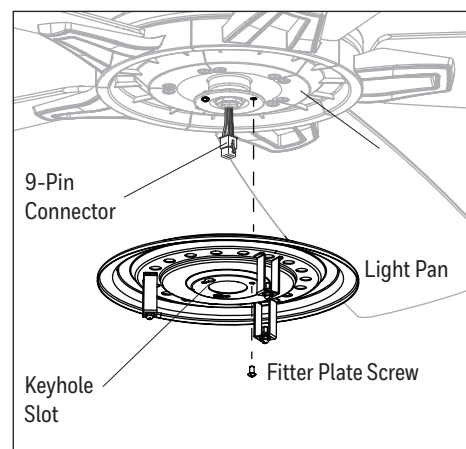

Figure 4.5
- Remove one of the three fitter plate screws preassembled to the fitter plate and loosen the other two but do not remove. Feed the 9-pin connector through the center hole in the light pan. Align the keyhole slots in the light pan with the loosened screws in the fitter plate. Turn light pan clockwise and replace the previously removed fitter plate screw. Tighten all screws (Figure 4.5).